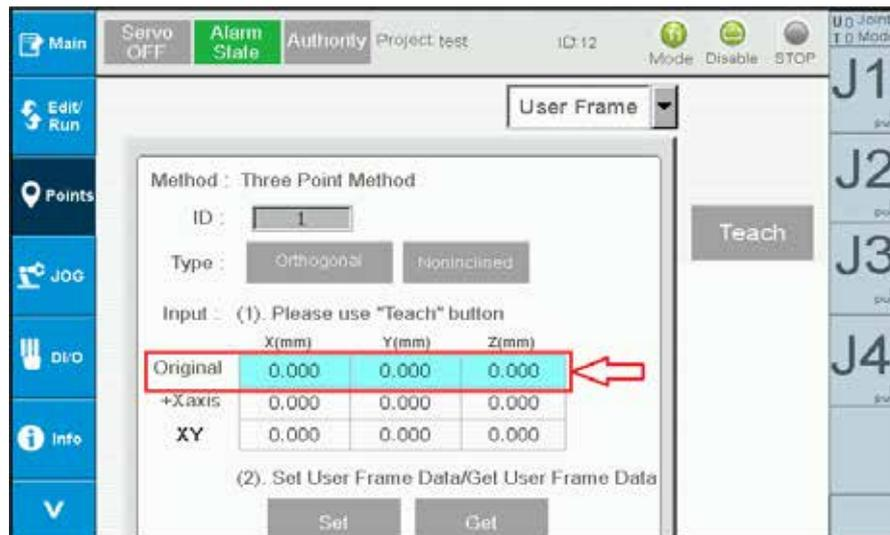

Figure 2-18 Point information - Setting up original point of user coordinates
- ii. Select Original on the screen (Figure 2-18).